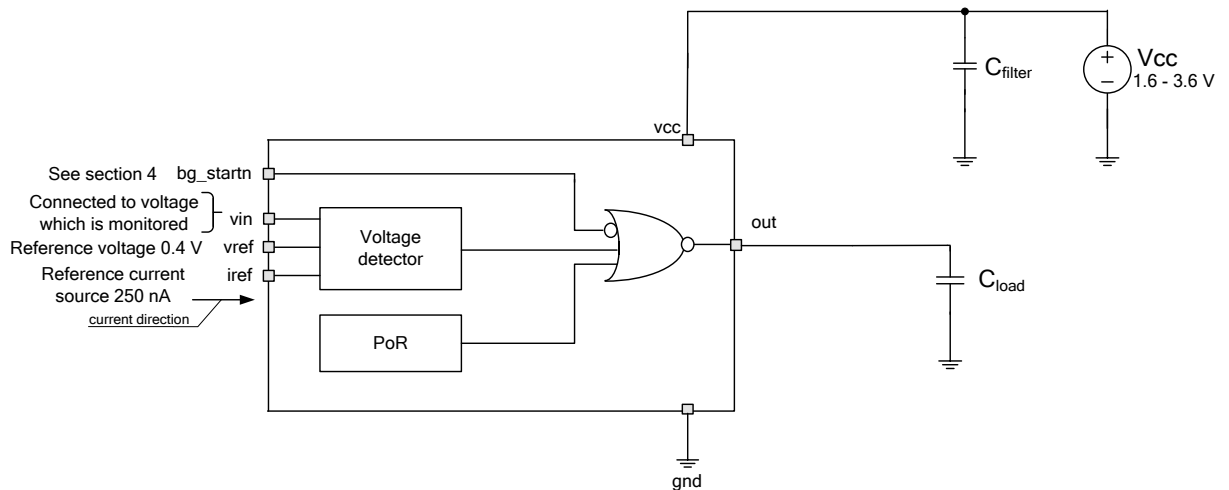

Figure 1: Power on reset with detector structure and application diagram
- Section 5 “Structure”. Figure 1 updated